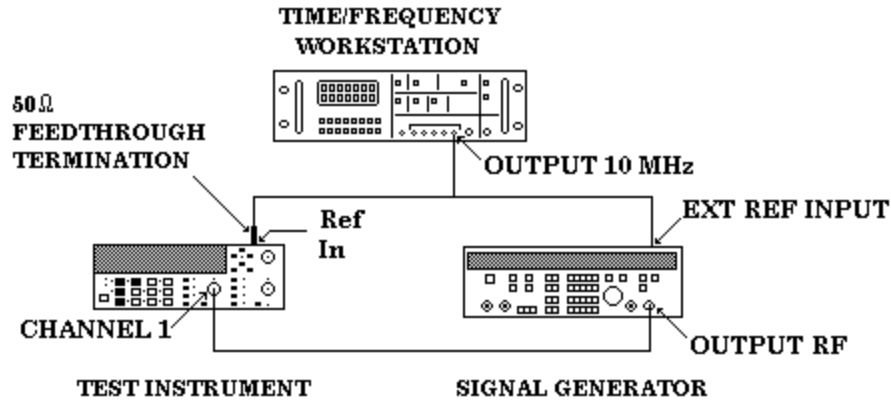

Figure 1. Equipment setup
- (1) Press and release TI **POWER ON/STBY** pushbutton to **STBY**.
- (2) Press TI **POWER ON/STBY** pushbutton to **ON**.
- (3) Connect equipment as shown in figure 1.